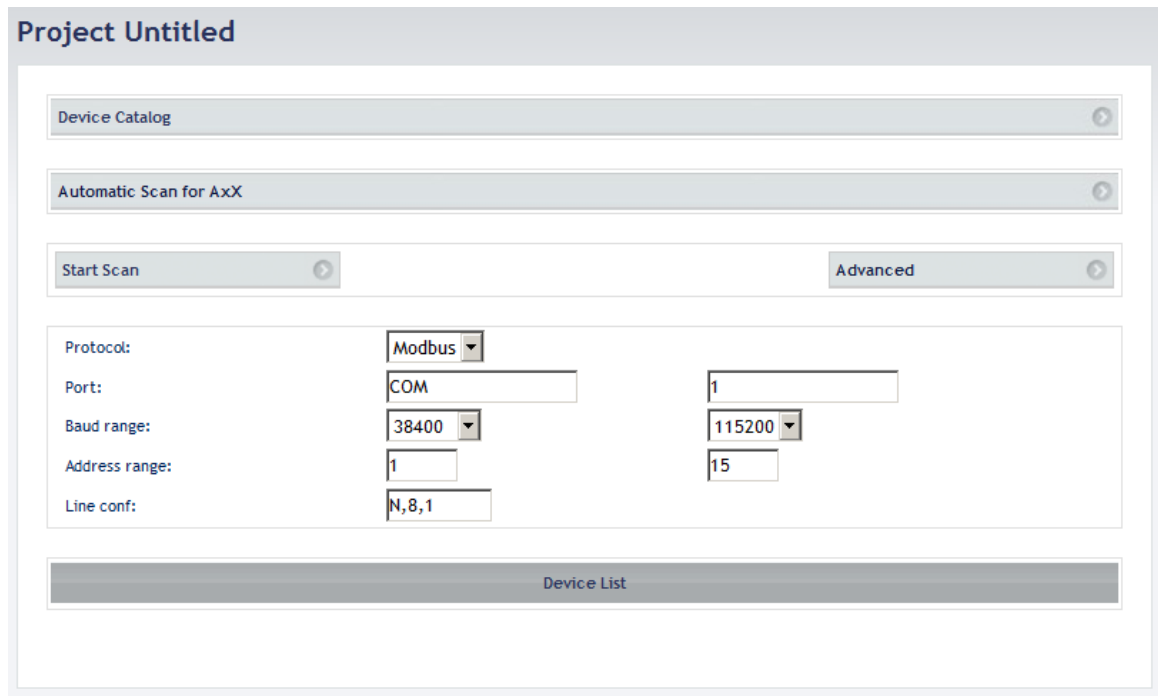

Figure 12 – Automatic scan for AxX
- Click the “Automatic Scan for AxX” bar on the main page. Before starting scan, press the “Advanced” bar to check the communication parameters in Figure 12. Modbus is the default protocol for Ax drives; setup the correct COM port by which PC connects with the device; select the baudrate range from a starting point to an ending; enter the address range you would like to scan. Press “Advanced” again, the window retracts back and the settings are persisted. Refer to Chapter 6 for more details on communication parameters settings.